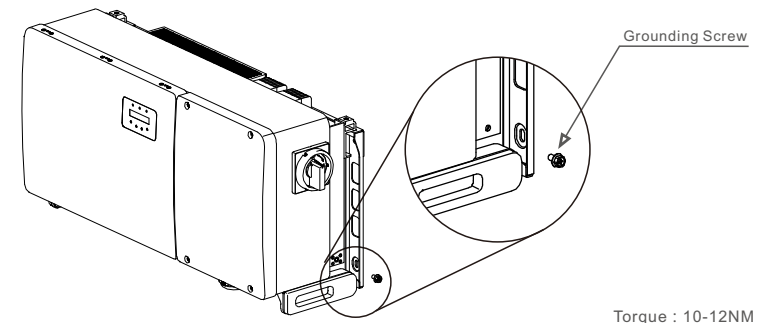

Figure 3.17 Fixed cable
- 6) Connect the grounding cable to the grounding point on the heat sink, and tighten the grounding screw, Torque is 10-12Nm(see figure 3.17).